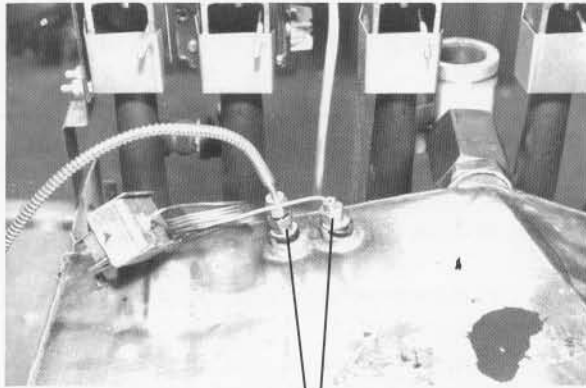

Figure 6
6. Using wrench, remove plug that secures hi-limit thermostat capillary to bottom of frypot (Fig. 6).
- Using wrench, remove the plug that secures probe cable to bottom of frypot (Fig. 6).